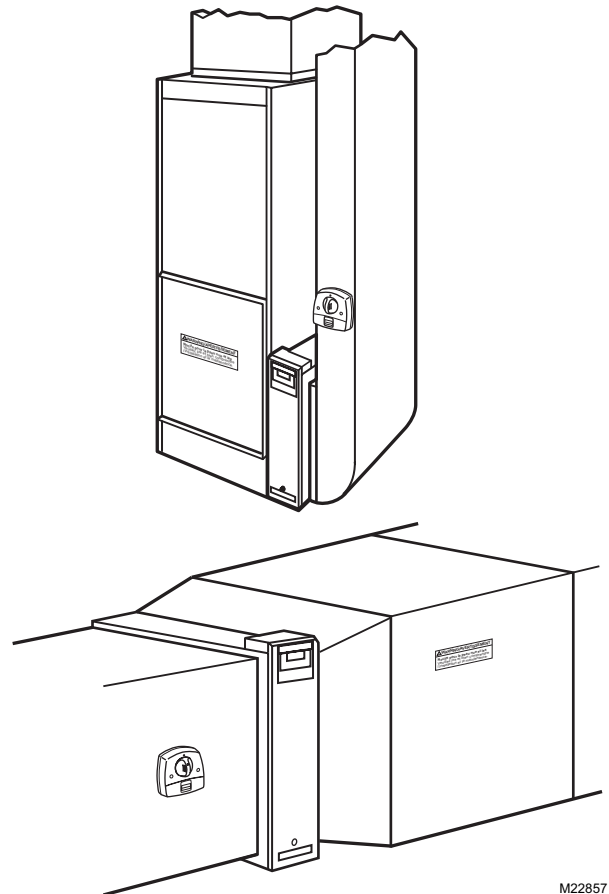

Fig. 1. Typical Air Treatment System installations.
Installed in the return air duct of the system, the Ultraviolet Air Treatment System kills a high percentage of airborne germs circulating through the forced air heating and cooling system. Individual results depend on careful installation and maintenance and on the actual amount of time the system fan operates. See Fig. 1.
2. Determine the location for installation (see Fig. 1 and 2):